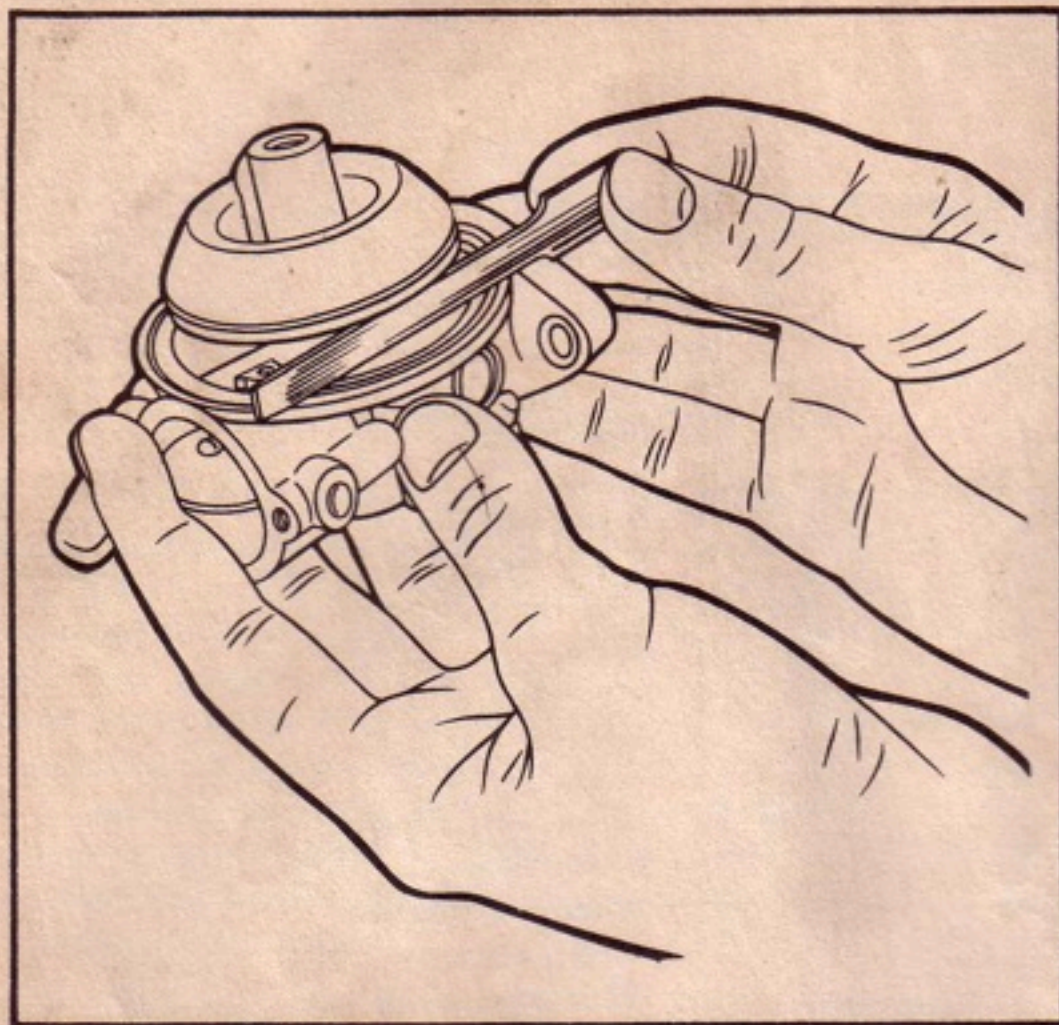

Figure D-6. Gaging Float on Carter Carburetor
c. Install the needle seat (8) with a new gasket (9) in the body assembly (24).
d. Insert the needle (7) and attach the float (6) to the body (24) by inserting the float pin (5).
e. Hold the carburetor body (24) upside down and gage the float as shown in figure D-6. The distance from the upper edge of the float at the free end should be 1/4 inch from the edge of the casting. If an adjustment is required, bend the float lip with a small screwdriver.